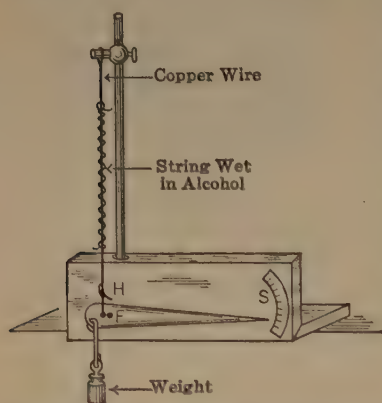

FIG. 40.—Why does the pointer rise on S when the wire is heated?
long from a support as in Fig. 40. Bend the lower end so that it connects with the hook (H) on the lower wooden pointer. The fulcrum about which the wire turns is just a bit to the right to the point of support, H. About an inch to the left, a weight of about 200 grams is attached so that it pulls downward. The pointer may be